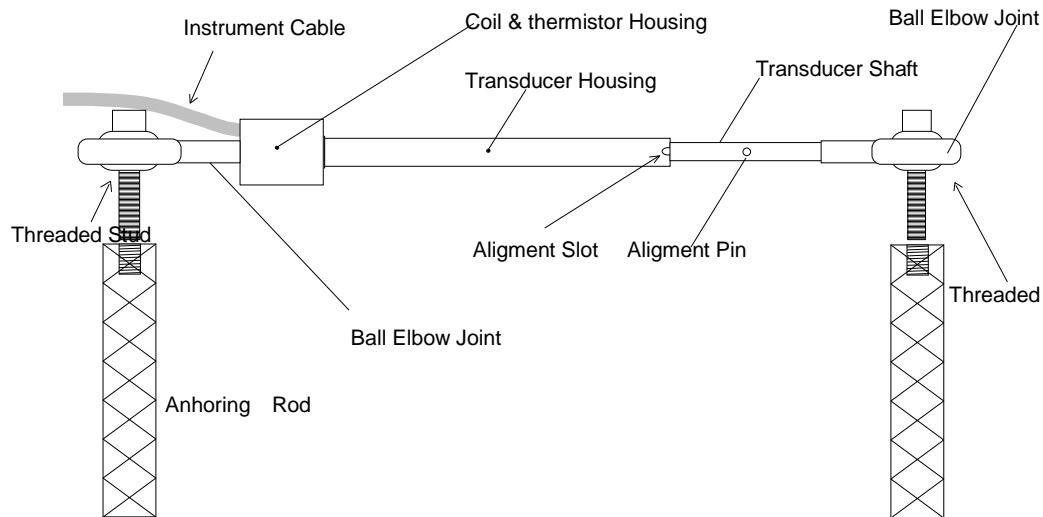

Figure 1 - Model CGEO-CR Vibrating Wire Crackmeter
Upon receipt of the instrument, the gage should be checked for proper operation (including the thermistor). The Crackmeter normally arrives with its shaft secured at approximately 50% of its range (see Figure 1). This holds the instrument in tension thereby helping protect it during shipping.
Note also that the calibration sheet supplied with the Crackmeter shows actual readings at zero, 25%, 50%, 75% and 100% of the range of extension. These readings can be used as a guide to set the Crackmeter in any part of its range, either in anticipation of closure or opening of the crack. The Crackmeter can be extended until the desired reading (see Section 3 for readout instructions) is obtained and then held in this position while the distance between the anchor points (threaded studs on ball elbow joints, see Figure 1) is measured. This measurement can then serve as a guide for drilling or welding the anchor points.
2. Assemble the Crackmeter with anchors attached. If installing the instrument at the mid-range position, leave the nylon tie installed (see Figure 1) that secures the transducer shaft. Fill the holes with grout or epoxy and push the anchors in until the tops are flush with the surface. For holes drilled overhead use a quick setting grout or epoxy.